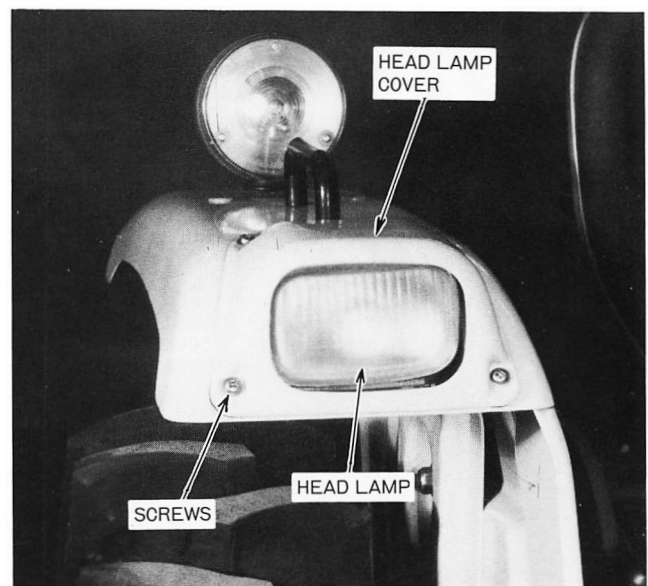

Figure 59 – Headlamp Assembly
1. Remove four screws securing the headlamp cover to fender, Figure 59.